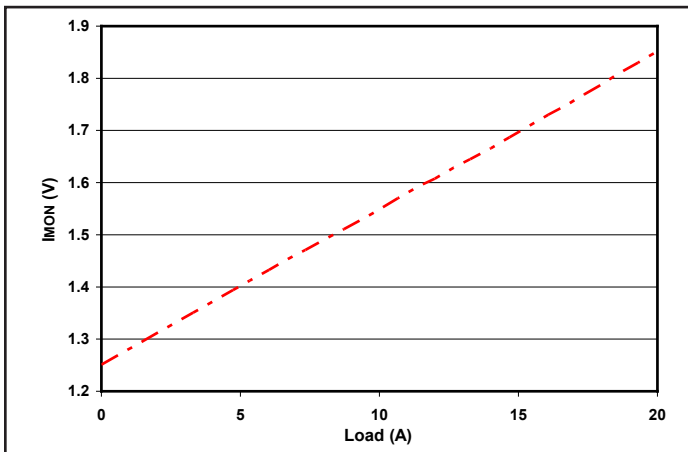

Figure 9: Imon pin voltage vs. load current at 16 V input and 13.8 V output. Load capacitance: 100µF electrolytic cap. C option only.
**Current monitor:** The  $I_{mon}$  pin voltage tracks the output current, as shown in figure 9. Zero load current is 1.25V and maximum rated load current is 1.83V. This pin has a 49.9 Ohm output impedance.